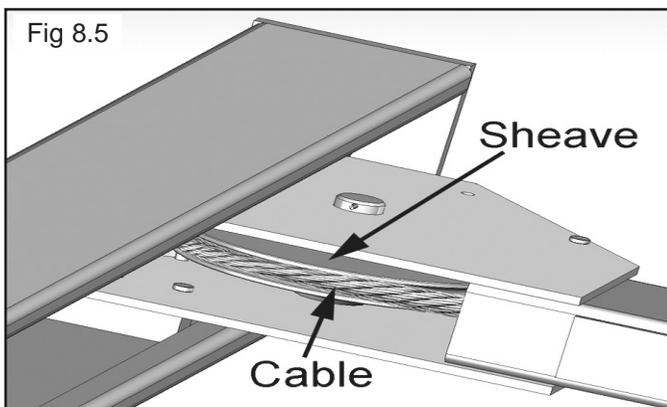

Fig 8.5
5. After routing the Cables double-check to make sure all are properly positioned and remain within the grooves of ALL Sheaves. (See Fig. 8.5 - 8.6)